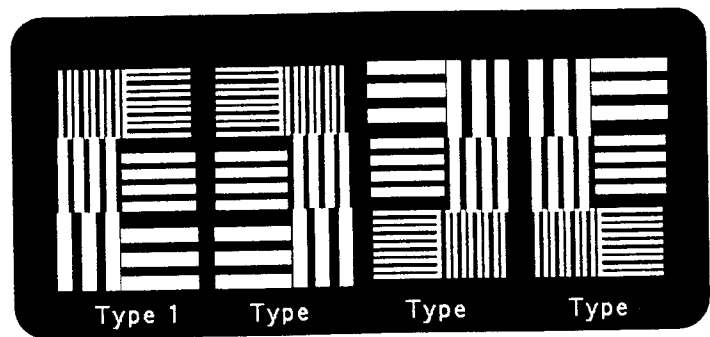

Figure 7-3. Resolution Test Patch
The RBOX command draws a cluster of six (6) resolution-checking boxes at any location in the displayed video area. Each box consists of a series of either horizontal or vertical lines. All the lines in a given box are 1, 2, or 3 active pixels thick. The spacing between the individual lines is equal to the thickness of the lines. All the pixels in the spaces between the lines are deactivated. The cluster can be drawn in any of four (4) orientations. Figure 7-3 uses white active pixels against a dark background. It shows the four available orientations.